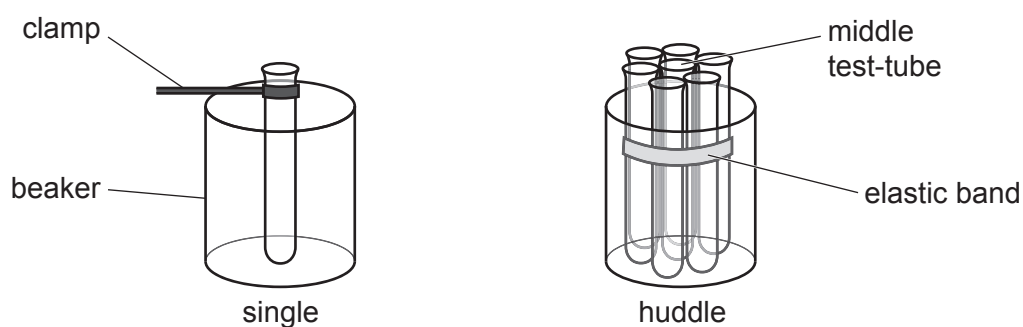

Fig. 1.1
- 1 Seven test-tubes should be grouped together and held in position using an elastic band as shown in Fig. 1.1. These should be placed in an empty beaker.
A single test-tube should be placed in a clamp and held in the middle of an empty beaker, as shown in Fig. 1.1.
Empty the test-tubes and reassemble as shown in Fig. 1.1.